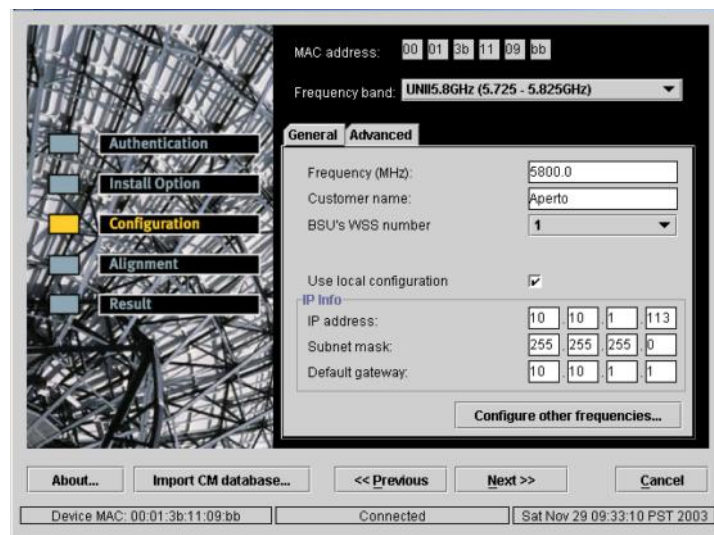

Figure 5-5 Configuration Window: General
9. In the Install Option window, select Setup; then click on the Next>> button. The Configuration Window will be displayed, as shown in Figure 5-5. The Configuration Window shows the configuration retrieved from the PacketWave 200. The MAC address should be the same as recorded on the label on the unit.
11. With the **General** tab selected in the Configuration Window as shown in Figure 5-5, configure the following parameters as appropriate: